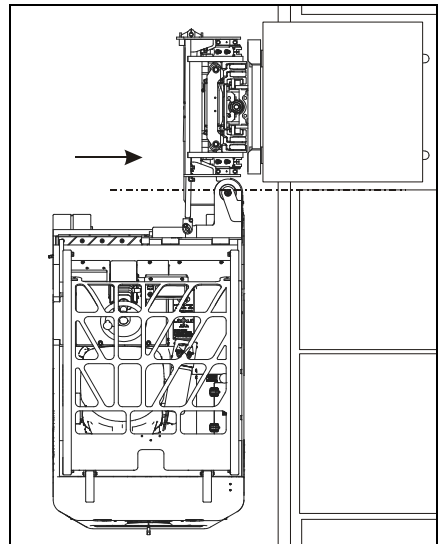

Figure 4-18: Straighten and Insert
7. Continue pivoting the mast to the right while moving the truck forward to align the load to the rack. **See Figure 4-18.**
8. Pivot the full 90°, and then shift to the right to place the load into the rack opening. See **Figure 4-18**.